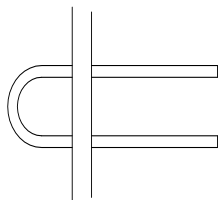

Fig. 5
- Step 2 Pass the ring over the TreeSqueeze and back down through the opposite end of the loop (Fig. 5 & 6).